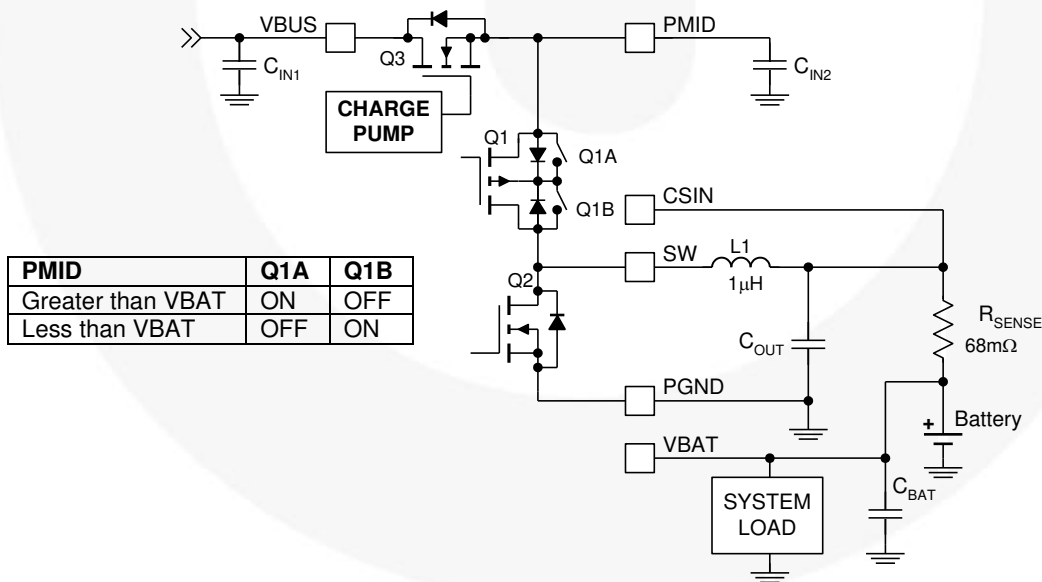

Figure 3. Power Stage
3. 6.3 V rating is sufficient for CMID since PMID is protected from over-voltage surges on VBUS by Q3 (Figure 3).